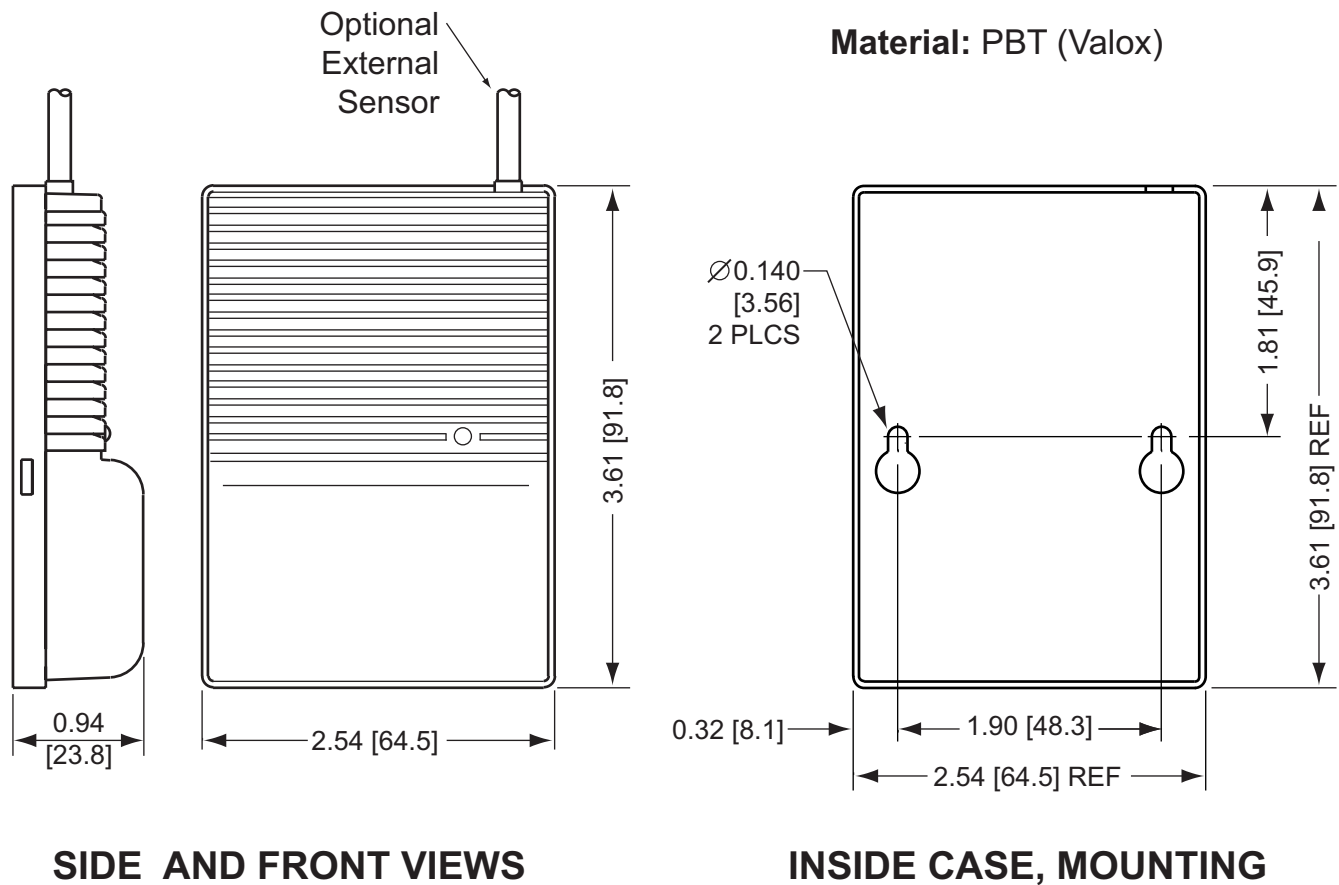

Figure 2.2b Mounting the End Device (zED)
- To mount unit to wall. Refer to **Figure 2.2b** for mounting dimensions.